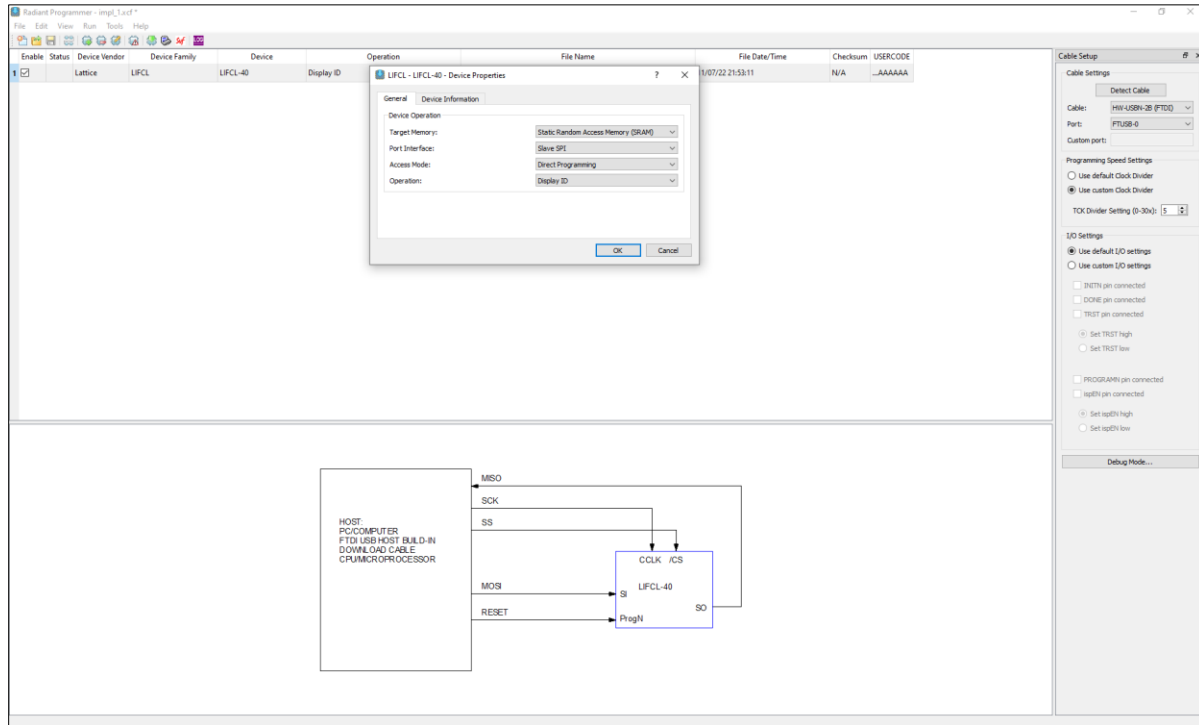

Figure 6.1. Radiant Programmer – Display ID Operation
1. In Radiant Programmer, set up the operation as shown in Figure 6.1, which is an example of the Display ID operation using SSPI.